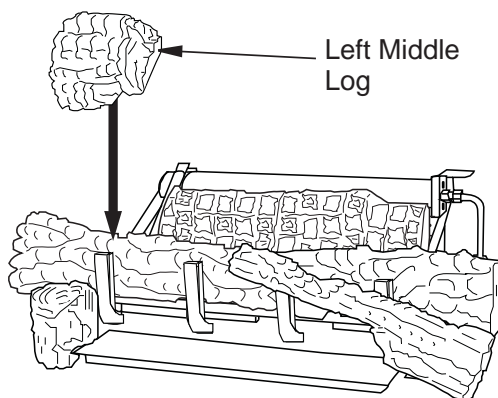

Figure 28 - Installing Left Middle Log
6. The left middle log (18" D-066, 24" & 30" D-040) has a groove on the bottom to sit on the chassis and has to sit on the tab on the back of the left front log as shown in **Figure 28**.